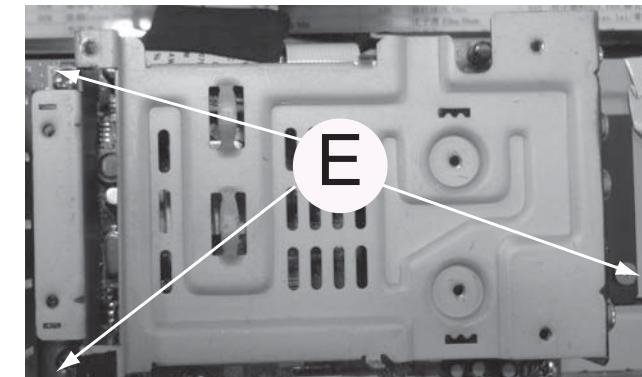

Figure 5
- 1) Loosen 3 screws "E" at the bracket as shown in figure 5.